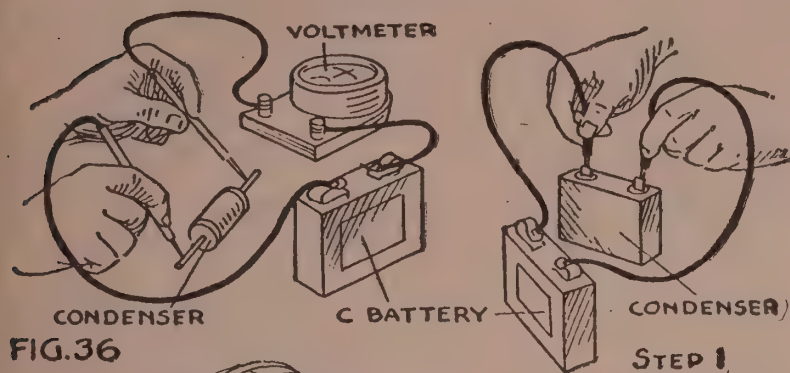

FIG. 36
**Testing A Condenser:** A fixed condenser can be tested by connecting it in series with a battery and a voltmeter as shown in Fig. 36. If the voltmeter shows a momentary deflection, the condenser is a good one. However, if a constant deflection is noted it is a sign that the condenser leaks. If the full voltage of the battery used in the circuit is registered by the meter, the condenser is short-circuited at some point.